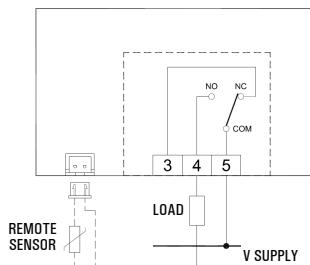

Fig. 7
- Make the electrical wirings following the connection diagrams of Fig. 7 and 8.
The outputs, terminals 3, 4 and 5, are tension-free and insulated with double insulation from the other parts of the thermostat. So, it is possible to power an high voltage load ($230V \sim$), as can be seen in Fig. 7 and 8.